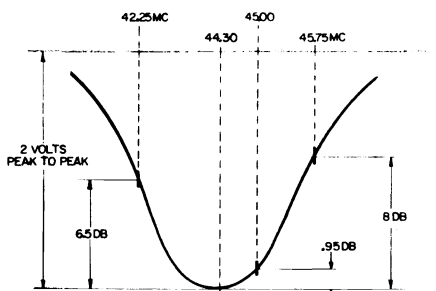

Figure 12 - Typical IF response, Mixer Amp grid to 2nd Det.
| 5. | Connect sweep generator to TP ⑩ at 44.30 MC. Couple CW generator with marker at 44.30 MC to sweep generator cable. Keep marker amplitude low to avoid distorting response. Adjust scope for 2V PP. | Mixer output coil for maximum amplitude. T201 for "rocking symmetrical response with waveshape and markers" as shown in Figure 12. |